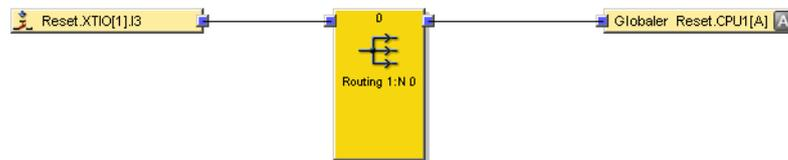

Figure 351: Routing an input to the Flexi Link system
- ▶ To make the value of an input directly available to all the stations within a Flexi Link system, use a **Routing 1:n** or **Routing n:n** function block (see figure 351, page 473).